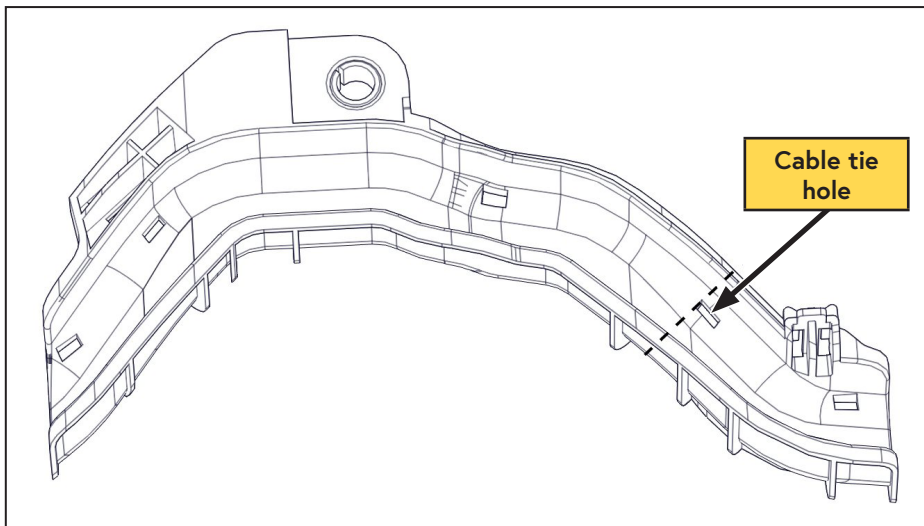

Figure 18 — Additional cable tray modifications
- Mark a line along the edge of the cable tie hole (Figure 18).